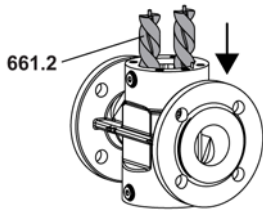

Fig. 24
2. Insert the idle screws **661.2** into the pump housing, see Fig. 24.